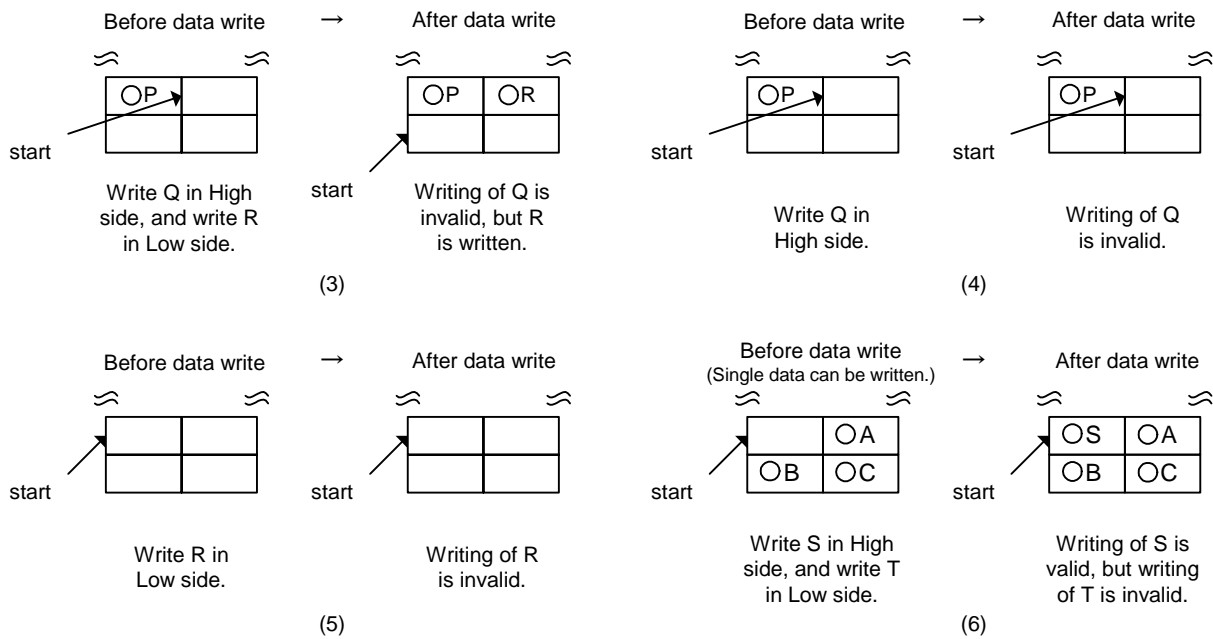

Fig. A2.6.23 FIFO Write Process (Operation requiring caution)
If the FIFO memory already has a byte boundary and if you use the word write, the High-side data writing is ignored and data is written in the Low side only (see case (3) of Fig.A2.6.23). This operation is the same as a byte write in the Low side. Similarly, if the FIFO memory has a byte boundary and if you write data in the High side only, this writing is ignored (see case (4) of Fig.A2.6.23).
If the FIFO memory has no byte boundary and if you write data in the Low side only, this writing is ignored (see case (5) of Fig.A2.6.23). Also, if the FIFO memory has no byte boundary and if you use the word write when the writable data count is equal to 1, the data writing in the Low side is ignored and data is written in the High side only (see case (6) of Fig.A2.6.23). This operation is the same as a byte write in the High side.